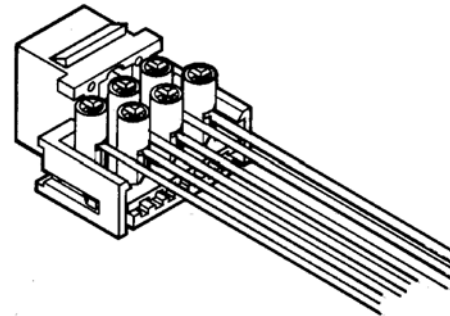

Figure 10
3. Terminate each wire by repeating Step 2. Inspect jack assembly to ensure that caps are fully seated and all wires are terminated (Figure 10).